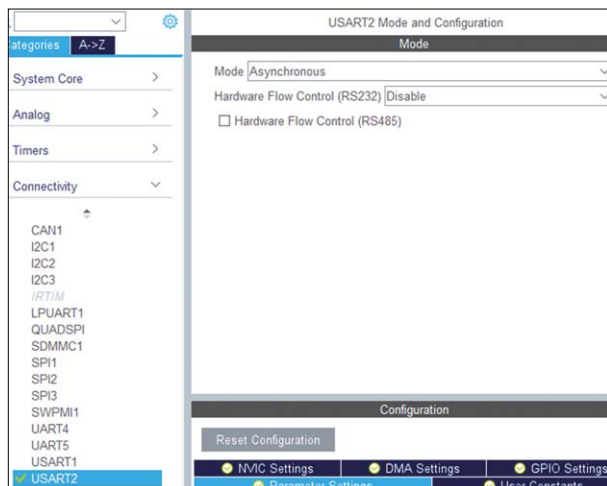

Figure 11.8: Select USART2.
- Select **USART2** under tab **Connectivity** and set its **Mode** to **Asynchronous** (Figure 11.8).